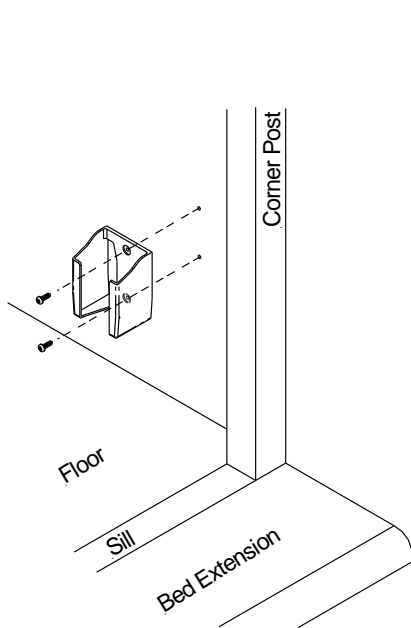

Fig.43
1. Mount the holster approximately 40"- 48" from the floor, or determine the best location as preferred by end user, **Fig.43**.